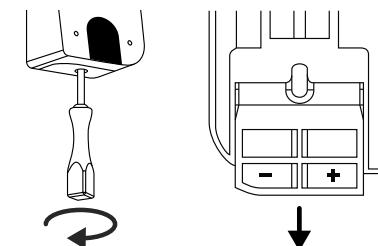

Fig. 3
! **Note:** The administrator code, if you haven't already changed it, can be found on the QR code sticker enclosed with the secuENTRY cylinder (Fig. 3). For information on how to create a user code, see the chapter "*I - User*" on page 4.
③ Remove the screw from the bottom of the keypad using the Tx8 screwdriver supplied with the keypad and pull the battery compartment downwards (Fig. 3).